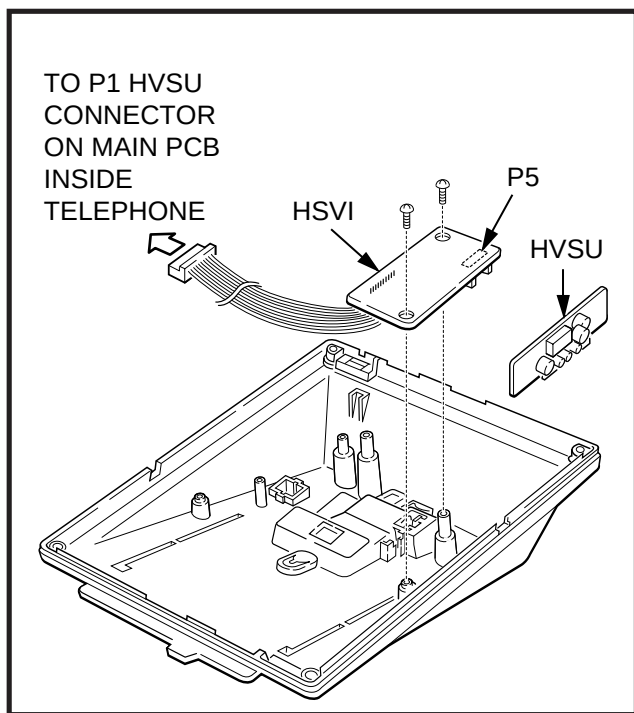

FIGURE 7-14
- 2) Align the **P5** connector on the HVSI subassembly with the receptacle on the HVSU subassembly (Figure 7-14). Apply firm, even pressure to the PCBs to ensure that the connectors mate properly (they should click).
- 3) Position the HVSU/HVSI subassembly on the standoffs inside the base, and secure with the two screws provided (Figure 7-14).